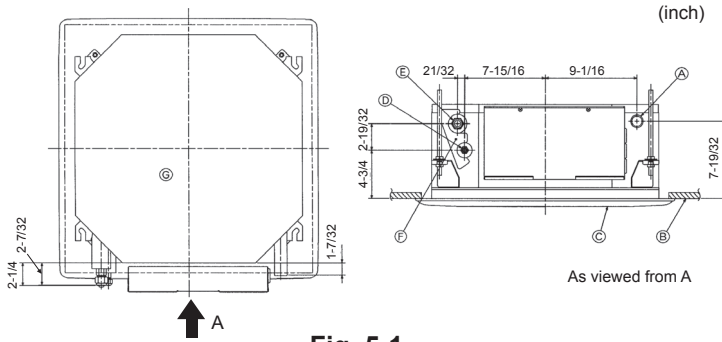

Fig. 5-1
5.1. Refrigerant and drainage piping locations of indoor unit (Fig. 5-1)